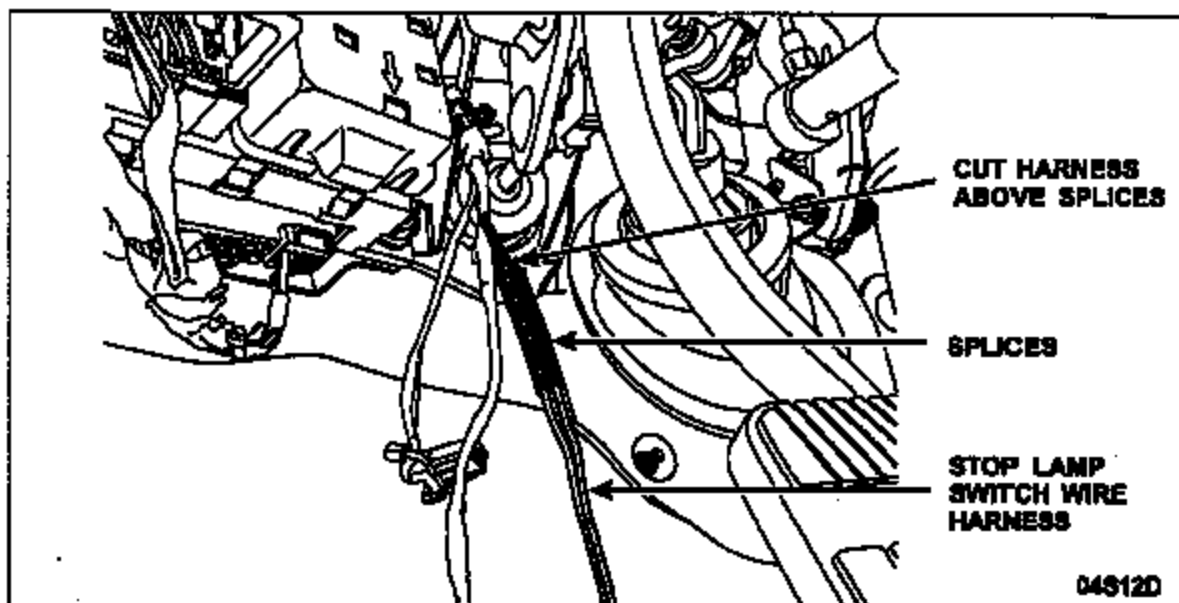

FIGURE 4
5. Remove enough tape to expose the repair area. Then cut off the harness above the splices, leaving as much of the vehicle harness as possible (the cut off section will include the switch, harness and the TSB-installed splices). See Figure 4.